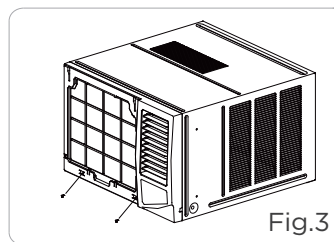

Fig.3
1. Remove two screws at the bottom of the frame.( See Fig. 3)